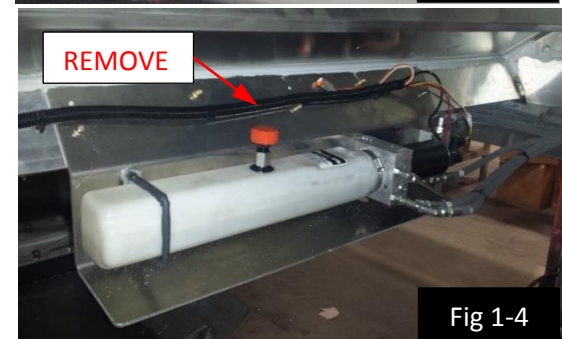

Fig 1-4
- Remove the wires from the tub cross-member and remove any zip ties holding the wire in place. (See Fig 1-4)